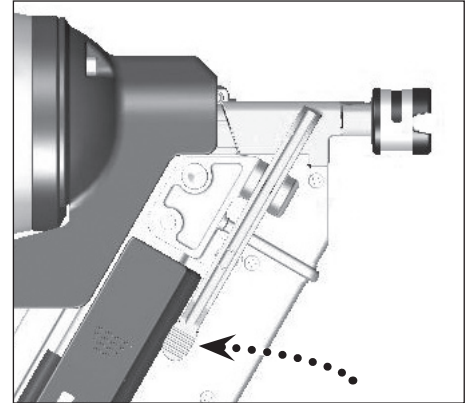

Figure 24 - Quick Clear Nose Lever
3. Press down on the Quick-Clear Nose (QCN) lever to disengage portion of nose barrel (See *Figure 24*).